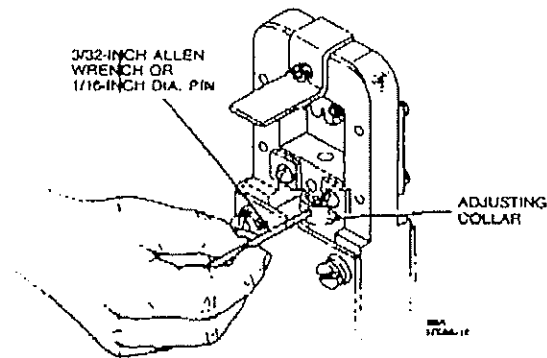

Figure 14
3. Insert the turned-down end of the 3/32-inch Allen wrench or a pin, approximately 1/16-inch in diameter, into one of the holes in the adjusting collar (see figure 14), then rotate the collar about 5 degrees counterclockwise to increase crimp height or clockwise to decrease crimp height.